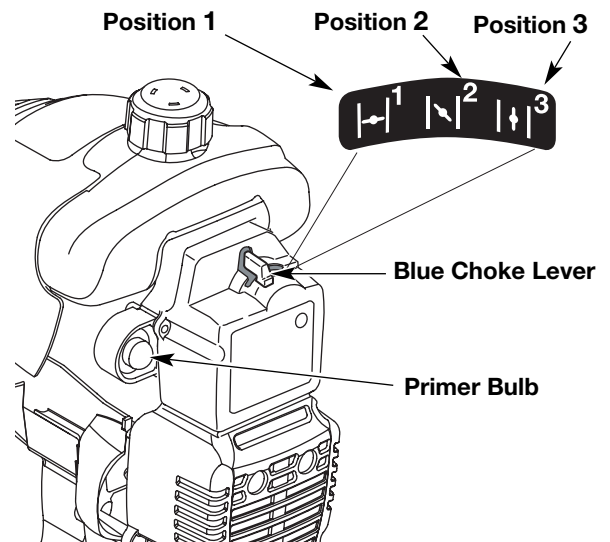

Fig. 16
4. Place the blue choke lever in **Position 1** (Fig. 16).